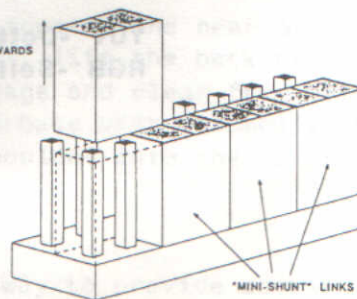
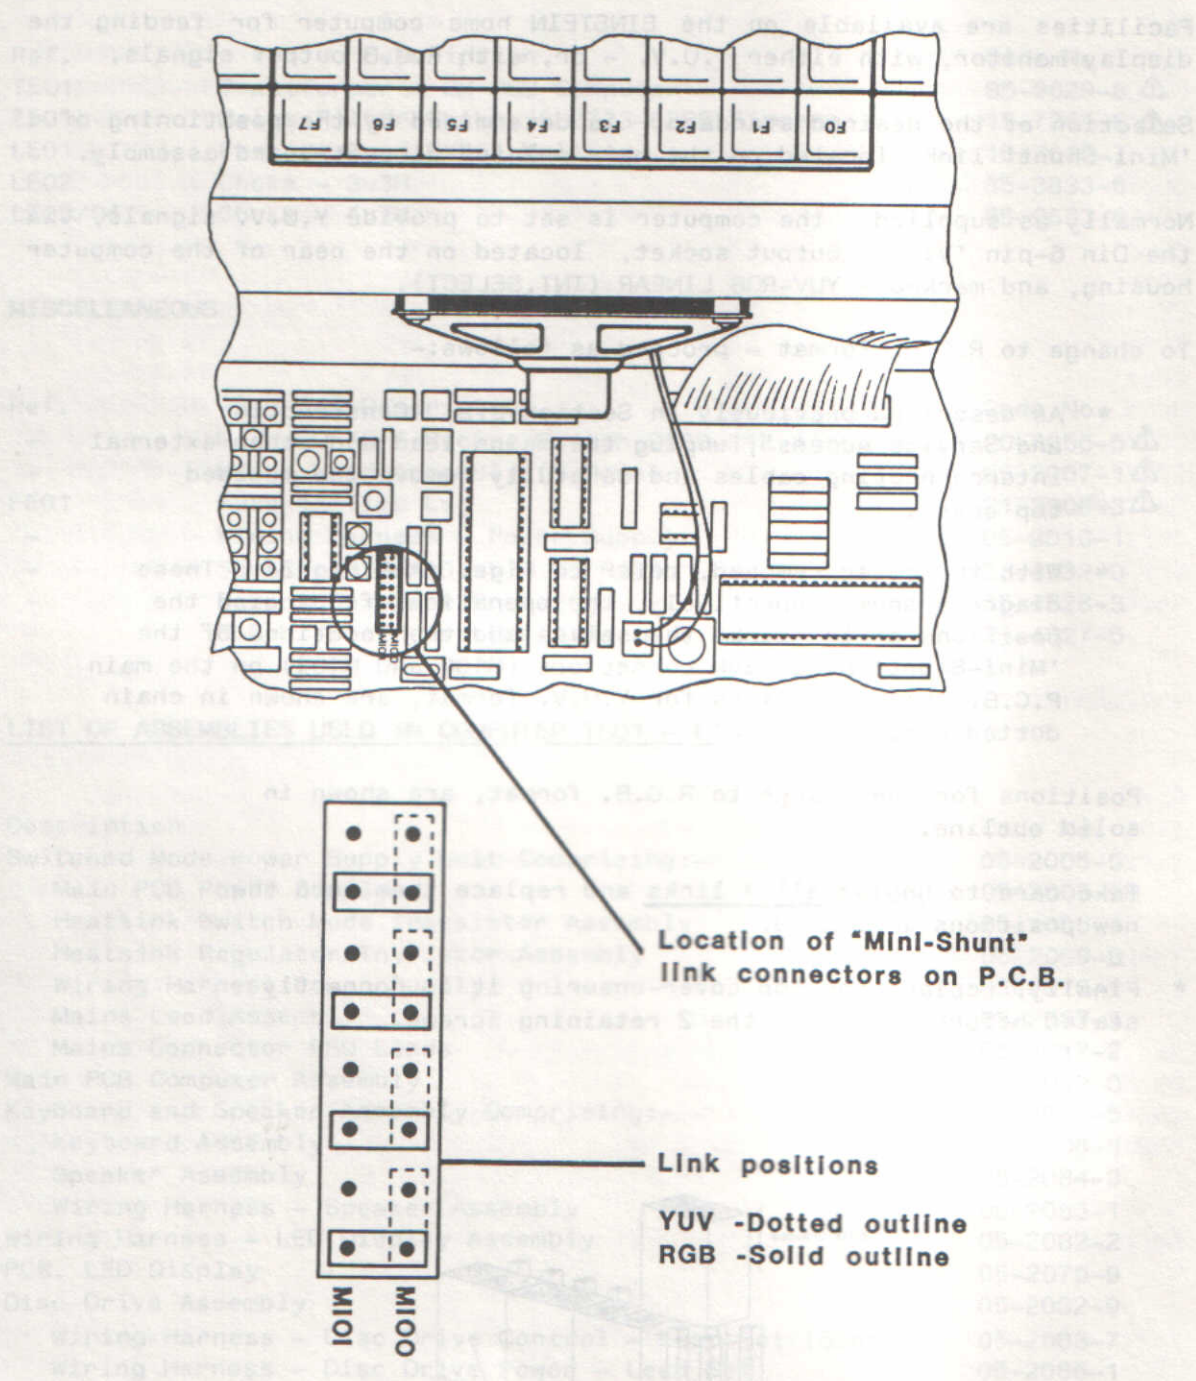

FIG.1A CHANGING OPERATION - 'MINI-SHUNT' LINK CONNECTIONS
Fig. 2A. DISPLAY MONITOR - SIGNAL OPTIONS
- * With the cover removed, refer to Figs. 1A & Fig 2A. These diagrams show respectively, the operation of changing the positions of the links themselves and the locations of the 'Mini-Shunt' plug link connectors (M100 and M101) on the main P.C.B. Link positions for Y.U.V. format, are shown in chain dotted outline.